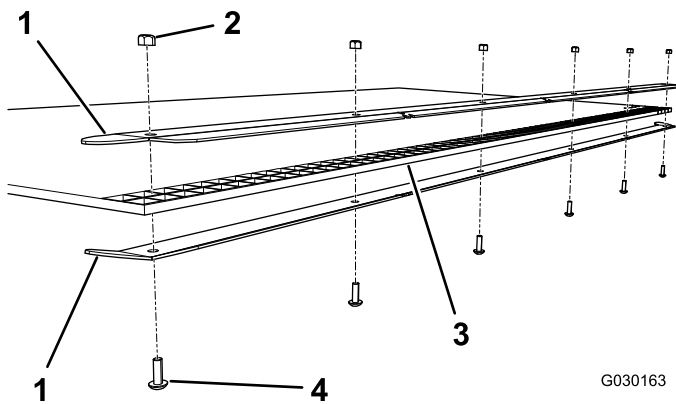

Figure 5
2. Loosely install the mat brackets to the edge of the drag mat with 6 screws ($\frac{5}{16}$ x 1 inch) and 6 locknuts ($\frac{5}{16}$ inch) as shown in Figure 5.
2. Loosely install the mat brackets to the edge of the drag mat with 6 screws (5/16 x 1 inch) and 6 locknuts (5/16 inch) as shown in Figure 5.